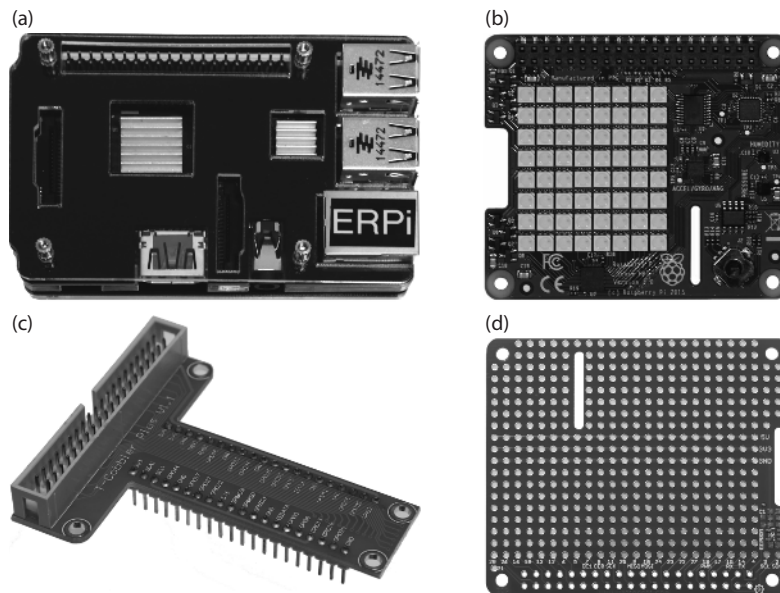

Figure 1-10: RPi Accessories: (a) An example case; (b) The Sense HAT; (c) The T-Cobbler board; and (d) A prototyping HAT
Many different cases are available for protecting your RPi, including the one illustrated in Figure 1-10(a) (\$6). Cases are useful for protecting the RPi from accidental short circuits (e.g., placing the RPi on a metal surface), but they do
Figure 1-10(b) illustrates the RPi Sense HAT (\$35). It contains an: 8 × 8 LED matrix display, accelerometer, gyroscope, magnetometer, air pressure sensor, temperature sensor, humidity sensor, and a small joystick. Figure 1-10(d) illustrates a low-cost blank prototyping HAT that can be used to design your own HAT, which includes space on the bottom right for a surface-mounted EEPROM that can be used to identify the HAT to the RPi.
An alternative to designing your own HAT is to use the T-Cobbler board as illustrated in Figure 1-10(c) to break out the RPi GPIO header to a breadboard using a 40-pin ribbon cable, which is available with the T-Cobbler. This sits neatly into a prototyping breadboard (see Chapter 4), providing clear pin labels for all of the RPi GPIO pins.
- Do not place a powered RPi on metal surfaces (e.g., aluminum-finish computers) or on worktops with stray/cut-off wire segments, resistors, etc. If you short the pins underneath the GPIO header, you can easily destroy your board. You can buy a case such as that in Figure 1-10(a). Alternatively, you can attach small self-adhesive rubber feet to the bottom of the RPi.
- Carefully check the pin numbers that you are using. There are 40 pins on the GPIO header, and it is very easy to plug into header connector 21 instead of 19. The T-Cobbler board in Figure 1-10(c) is very useful for interconnecting the RPi to a breadboard, and it is highly recommended for prototyping work.